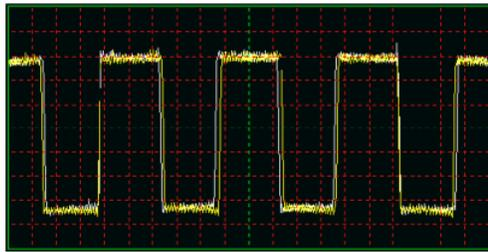

Figure 13: Integral gain is too high
8.2.1. If the profile is noisy (see Figure 13), the integral gain is too high.